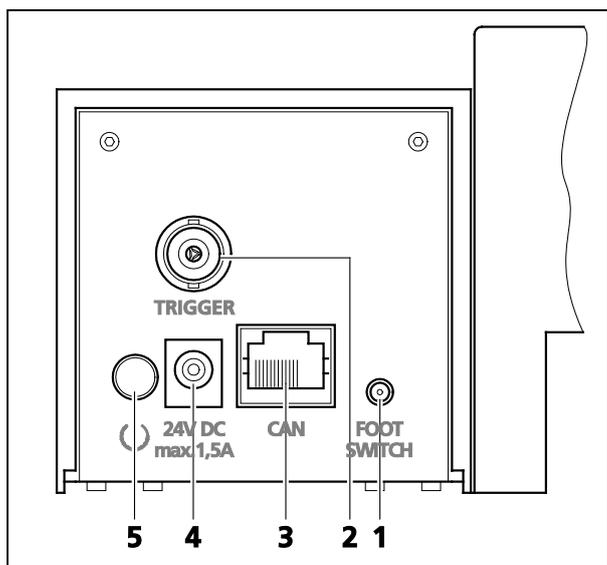

Fig. 4 On/off switch and ports on the transillumination top 450 mot.
- Use the CAN cable RJ 45 to connect the **CAN** (Fig. 4/3) socket of the transillumination top to one of the **CAN** sockets on the rear side of the focusing motor 3 (Fig. 1/K) or the EMS 3 (Fig. 1/O).
- A BNC cable can be connected to the **Trigger** (Fig. 4/2) plug-in point to transmit a trigger signal.
- Alternatively, the foot switch S can be used to switch the illumination of the transillumination top on/off via the **Foot switch** (Fig. 4/1) plug-in point.
- Connect the power supply unit to the **24V DC** (Fig. 4/4) plug-in point.
- Switch the transillumination top by pressing the on/off button  (Fig. 4/5) on the rear side.
- Switch off the transillumination top by pressing the on/off button  (Fig. 4/5).